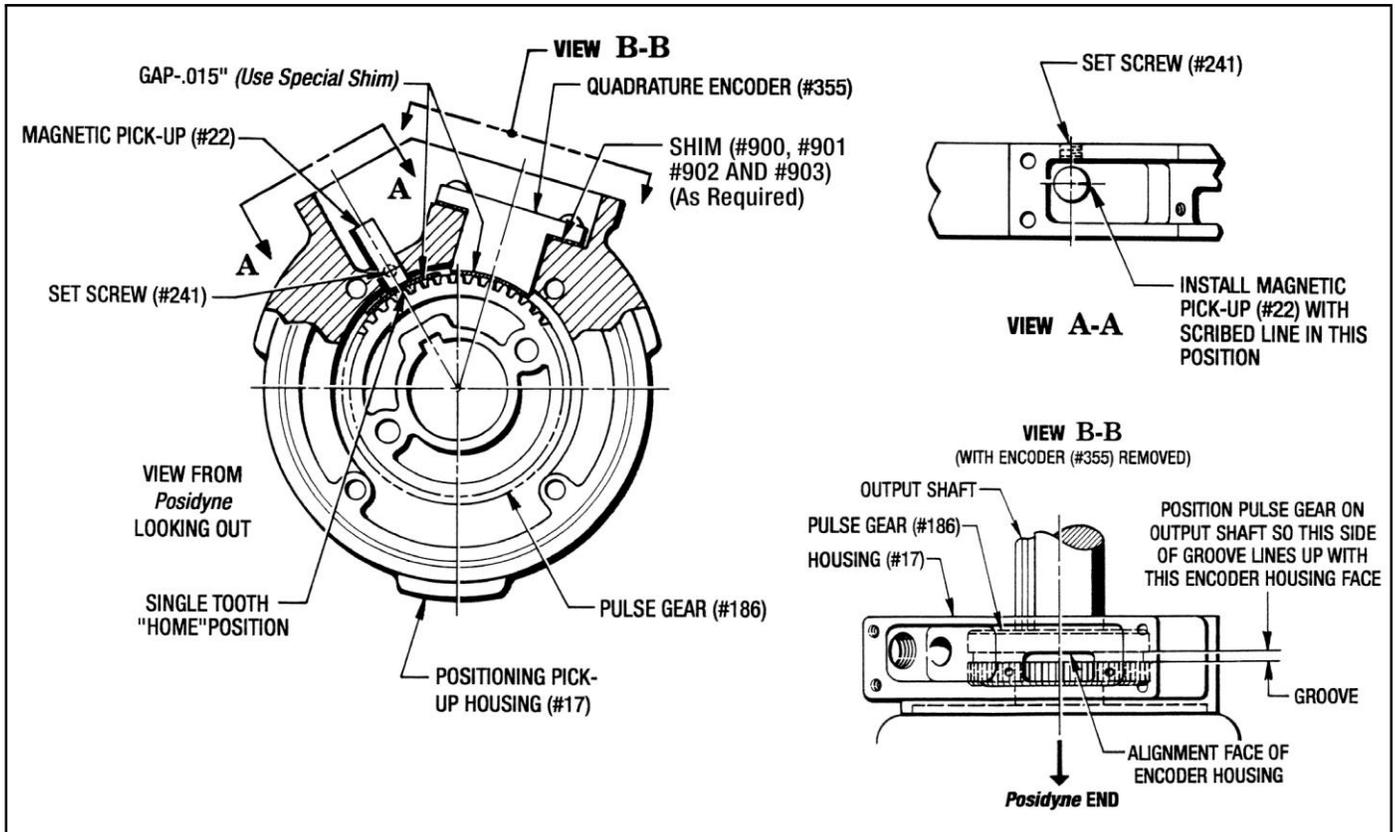

Figure 9.9 - Installation of Position Sensors
(See Figures 9.9 and 10.4)
2. Attach the Housing (#17) to the Posidyne Output Housing with (2) Screws (#76) and (2) Washers (#257).
3. Slide the Pulse Gear (#186) onto the output shaft and align as shown in *View B-B in Figure 9.9*. Tighten Set Screw (#154)
A. QUADRATURE ENCODER (See Figure 9.9)
- Position the Encoder so the (2) mounting holes are lined up with the holes in the housing. Insert the Sensor into the slot and attach with (2) Screws (#226).
- Check the Gap between the Pulse Gear and the Encoder with the Special .015" Shim that you made. If necessary, remove the Encoder and place Shims (#900 to #903) under the Encoder. (Usually .015" is sufficient.) Re-attach the Encoder and re-check the Gap. (See Figure 9.9)
B. MAGNETIC PICK-UP SENSOR (See Figure 9.9)
2. Insert the Magnetic Pick-Up Sensor (#22) into the hole with the **Scribed Line** in position as shown in *Figure 9.9, View A-A*